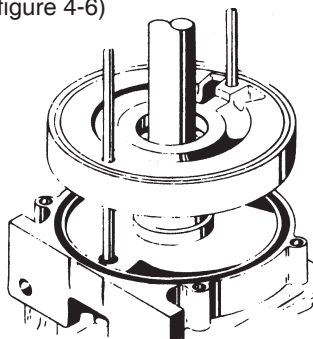

Figure 4-7
7. Place an "O" ring (#7) into the groove in the face of the cover (#1). Slide a left hand channel ring (#10) onto the guide rods with the water channel facing up.(refer to figure 4-7) With the pump feet in the "six o'clock" position, the large inlet opening should be at "eleven o'clock".